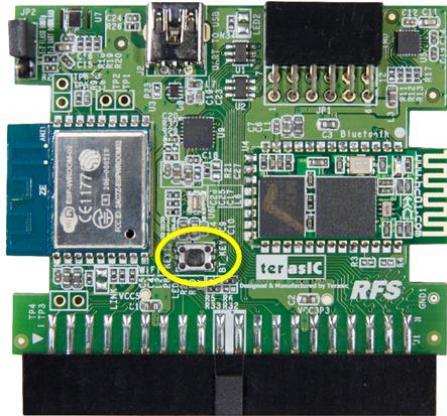

Figure 4-16 BT_KEY for enter order-response work mode (AT mode)
2. Push down and hold the BT_KEY (pull high PIO11) as shown in Figure 4-16.
2. Push down and hold the BT_KEY (pull high PIO11) as shown in **Figure 4-16**.